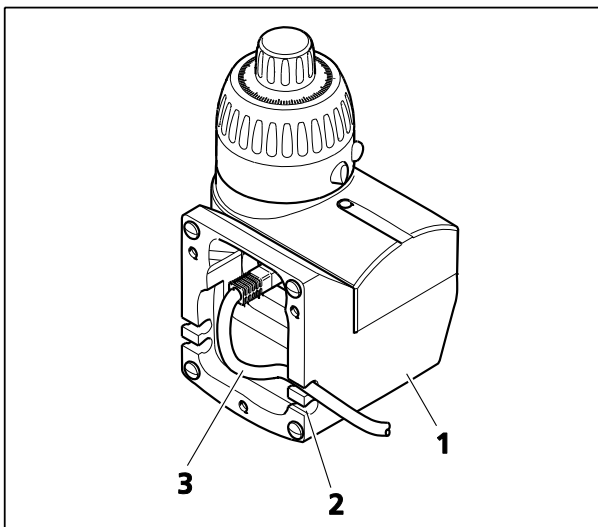

Fig. 22 Connecting the patch cable to MaRC mounted to the table-top base
- Connect the patch cable (Fig. 22/3) to the CAN bus connectors of MaRC (through the underside of the table-top base, Fig. 22/1) and the motorized focusing drive.
- Lead the patch cable through the table-top base bending it in a radius as large as possible (do not fold it) and pass it through one of the cut-outs (on the right or left, Fig. 22/1) to the outside.